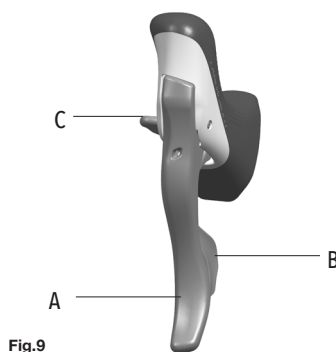

Fig.9
• Lever B (Fig. 9) on the left-hand control operates the front derailleur, lifting the chain onto the next highest chainring.
Lever B (Fig. 9) may be moved by 1, 2 or 3 clicks, depending on the derailleur cage position when the chain is [positioned on the smaller chainring.
• Lever C (Fig. 9) operates the front derailleur, dropping the chain onto the next lowest chainring.
• Once the chain is on the smaller chainring, lever B or C (Fig. 9) of the left-hand control can be moved by 1 click to attain a more precise alignment between the chain and the derailleur cage.